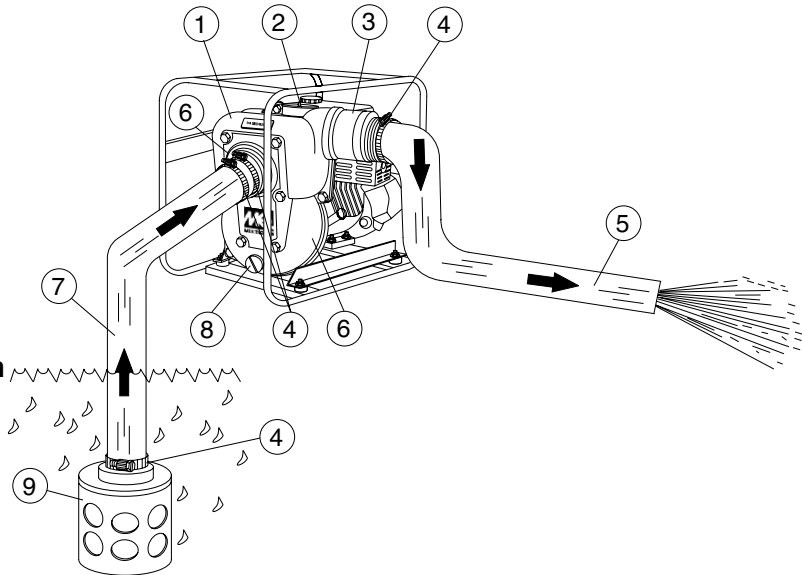

Figure 3. QP402H Pump Application
Figure 3 shows a typical application using the QP402H centrifugal pump. Please note that this pump is intended for the removal of clean water.
2. To prime pump, remove fill cap (See Figure 3) and fill pump casing with water. If the pump casing is not filled with water before starting, it will not begin pumping.
3. Attach suction and discharge hoses to the pump. Check that all hoses are **securely** attached to the pump. Make certain suction hose (See Figure 3) does not have any air leakage. Tighten hose clamps and couplings as required.
6. Check that the **discharge** hose (See Figure 3) is not restricted. Place hose so that it lays as straight as it is possible on the ground. Remove any twists or sharp bends from hose which may block the flow of water.
8. Make sure the **suction strainer** (See Figure 3) is clean and securely attached to the water end of the suction hose. The strainer is designed to protect the pump by preventing large objects from being pulled in to the pump.